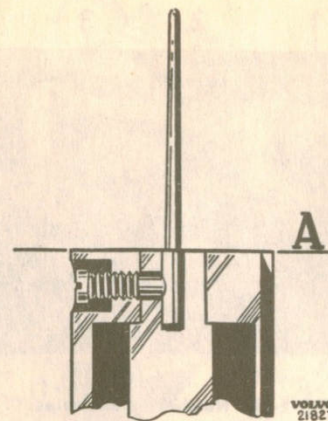

Fig. 1-72. Attachment of fuel needle
1. Fit the fuel needle as shown in Fig. 1-72. Only the tapered part of the needle should be above the piston.